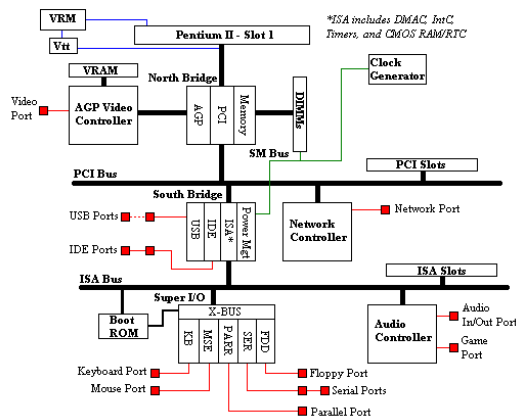

Figure 1 – Example Architecture
1. Understand the board structure. That is, divide the board into functional blocks, and create a hierarchical block diagram of the board structure, similar to the one shown in Figure 1. Collect the datasheets for all the major board ICs.
Using available board documentation divide the board into functional blocks, and draw a block diagram of the board structure, similar to the one shown in Figure 1. Use the following points as a guide to do this:
Using the block diagram, identify all the major blocks for which you can write a functional test sequence. A list of possible test sequences for the board example in Figure 1 are: